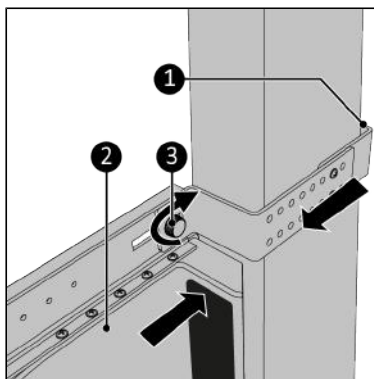

Figure 72.
9. Push the Way-out firmly against the window frame (Figure 72), pos. 2).
10. Pull the bracket as far towards you as possible (Figure 72, pos 1) so it clamps properly.
11. Tighten the screw cap (Figure 72, pos. 3).